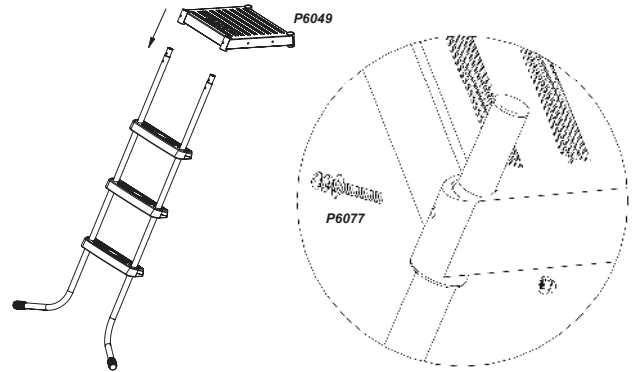

Figure 4
4. Curved Handle Installation (figure 4):